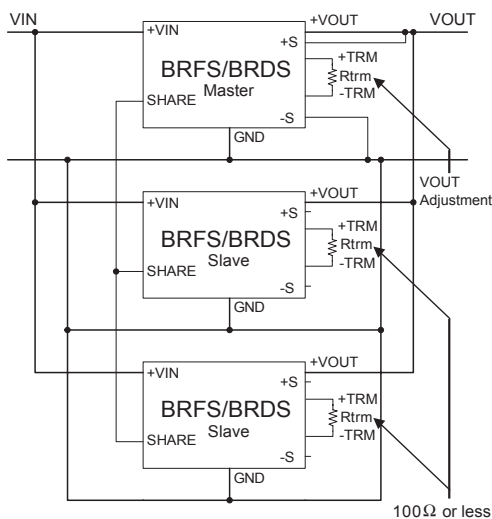

Fig.5.1 Example of wiring method in parallel operation
■ In parallel operation, wiring as Fig.5.1